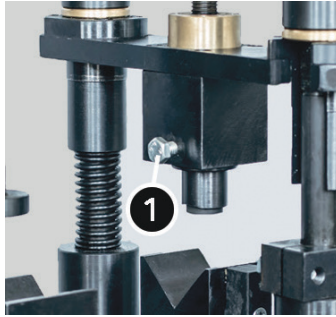

Figure 3
3. If it becomes necessary to replace the sealing elements of the filling nozzle (pos. 9, Fig. 1), the nozzle should be removed from the filling mechanism housing. Before removing the nozzle, loosen and unscrew the stopper (pos. 1, Fig. 3).